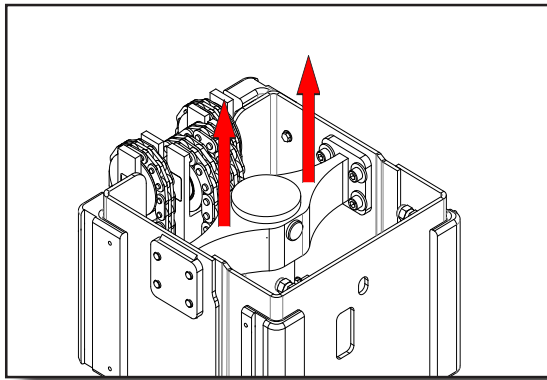

Figure 5-15. Mast 2 Bucket Support
3. Secure and support mast 2 at the cylinder mount bracket using straps and suitable lifting equipment, as shown in Figure 5-15.